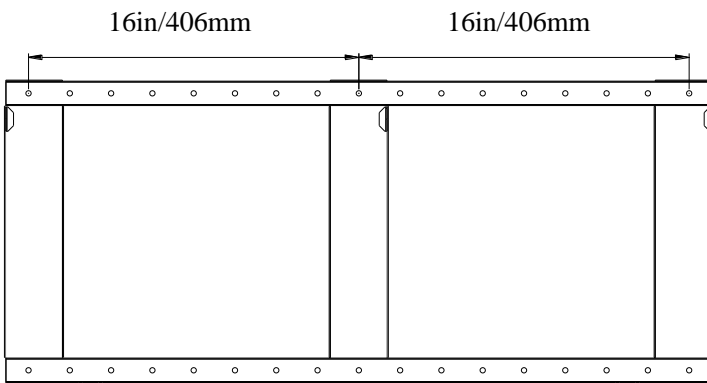

Fig. 3
2. Choose a solid and plain wall and put the bracket in the position where you want to install the fireplace. Mark the holes with a pen (6 for GE-50/58, 8 for GE-70/94) using the holes in the mounting bracket as a guide (Fig. 3)